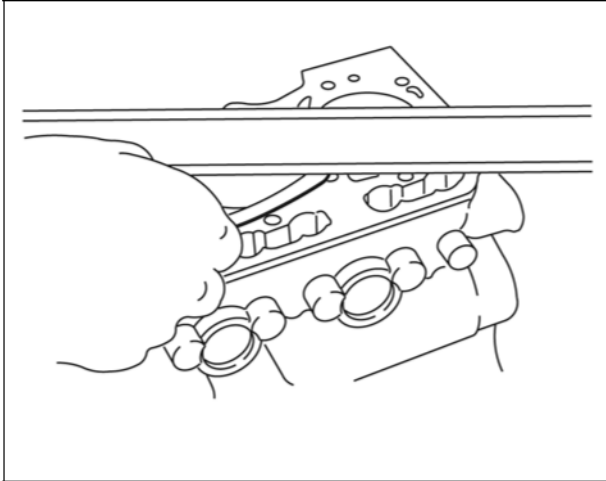

Figure 1
2. Inspect cylinder block deck for distortion (Figure 1).